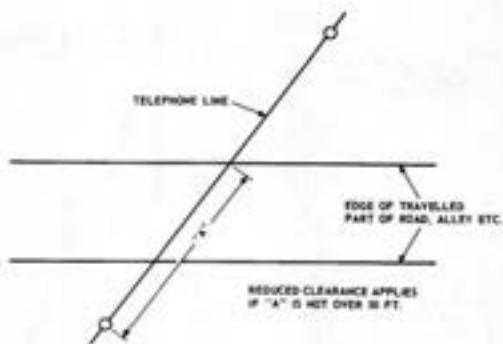

Fig. 4—Wire Crossing Public Road—Pole at Road's Edge
1.05 When drop wire sags exceed two or three feet, it will generally be quite advantageous to locate poles to avoid having the middle of the span occur above the traveled part of a road, alley, or driveway. A pole located within 50 feet of the far edge of the road, alley, or driveway (distance A, Fig. 4) will permit the overhead clearance to conform to requirements related to Fig. 4.
(2) **Pole at Road's Edge:** (Fig. 4) Clearance required when the drop wire is attached to a pole located within 50 feet of the far edge of the traveled roadway (distance A, Fig. 4).
| Public Roads Generally * Pole at Road's Edge* | Fig. 4 | 18-0 -- | 18-0 -- | 18-0 18-0 | | 18-0 18-0 | | 18-3 18-3 | |
| Public Alleys Generally Pole at Road's Edge | Fig. 4 | 15-0 -- | 15-0 -- | 15-0 15-0 | | 15-0 15-0 | | 15-3 15-3 | |
| Residential Driveways Generally Pole at Road's Edge | Fig. 4 | 10-0 -- | 10-0 -- | 10-0 10-0 | | 10-0 10-0 | | 10-3 10-3 | |